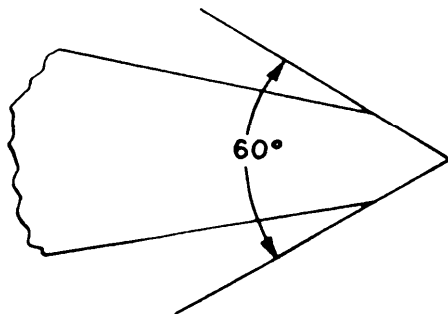

Figure 5-28.—Proper angle for a general use cold chisel.
- **Metal-cutting chisels:** These chisels are designed to cut cold metal, so we often use the general term *cold chisel* to describe them. The  $60^\circ$  angle shown in figure 5-28, is for a general-use cold chisel. Increase this angle to cut harder materials and decrease it for softer materials.